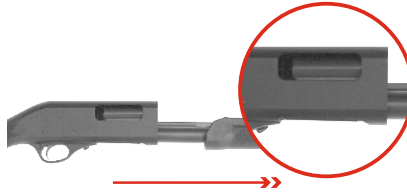

Fig.3
2. Move the forend reward slightly, so that the bolt is in the locked closed position (Fig.3).